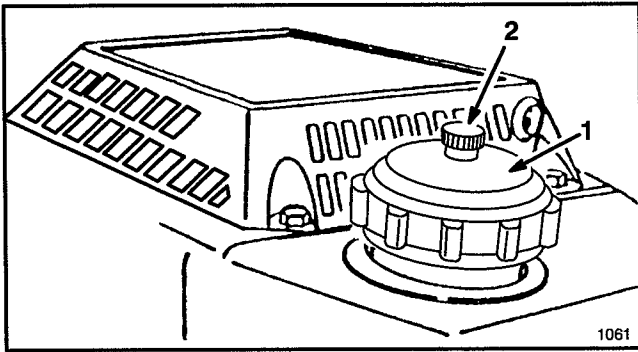

Figure 8
2. Open vent screw on top of fuel tank cap (Fig. 8) by rotating screw counterclockwise.